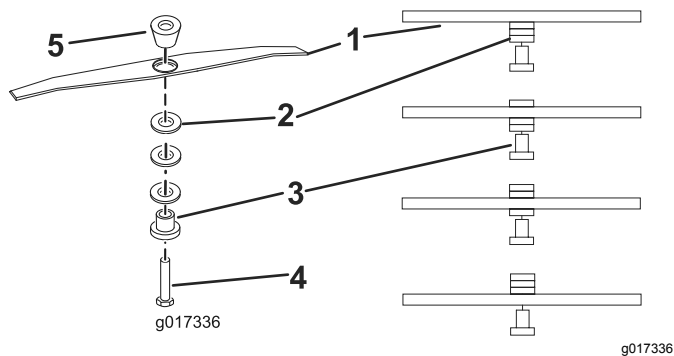

Figure 12
5. Reposition the spacers to the desired height, reinstall the blade retainer and spacers (Figure 12,), and tighten the bolt to 25 N-m (18 ft-lbs).